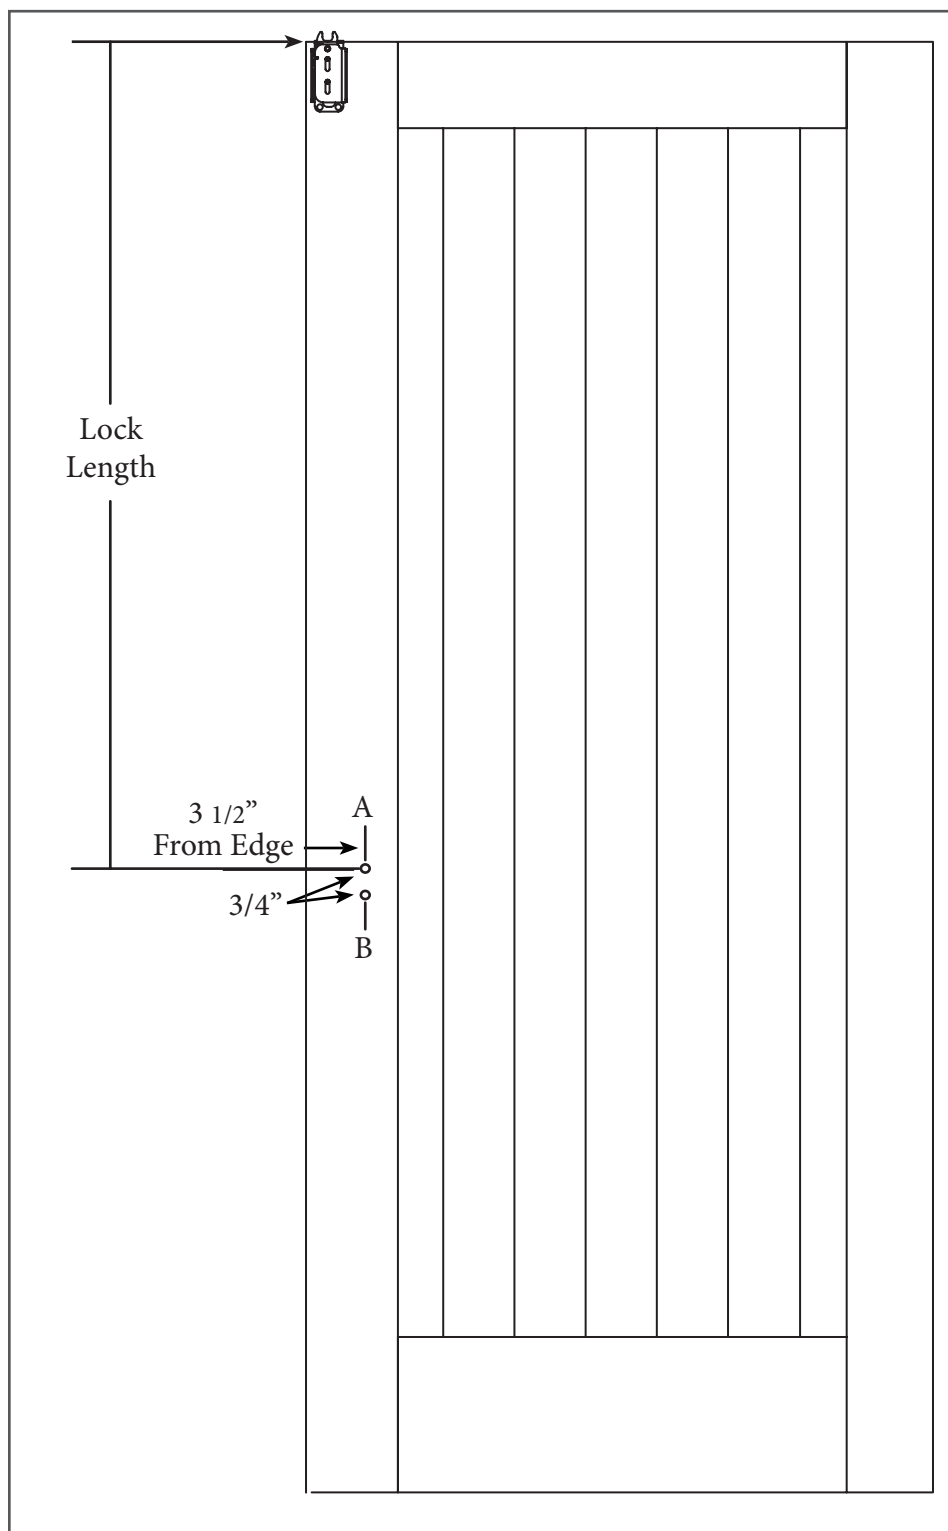

Figure 5
9. Beginning at the top of the door, measure the lock length (overall length). Make a mark with a pencil on the door (Figure 5).